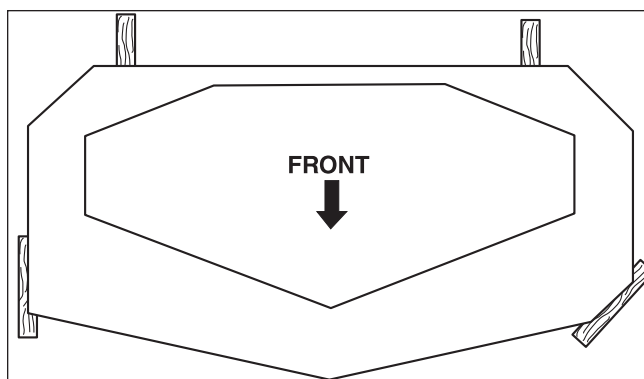

Figure 47. 2 X 4 Locations (Arrow points toward front of the deck)
3. Place 2 x 4 blocks under each corner of the mower deck with the 3-1/2" sides being vertical. See Figure 47.